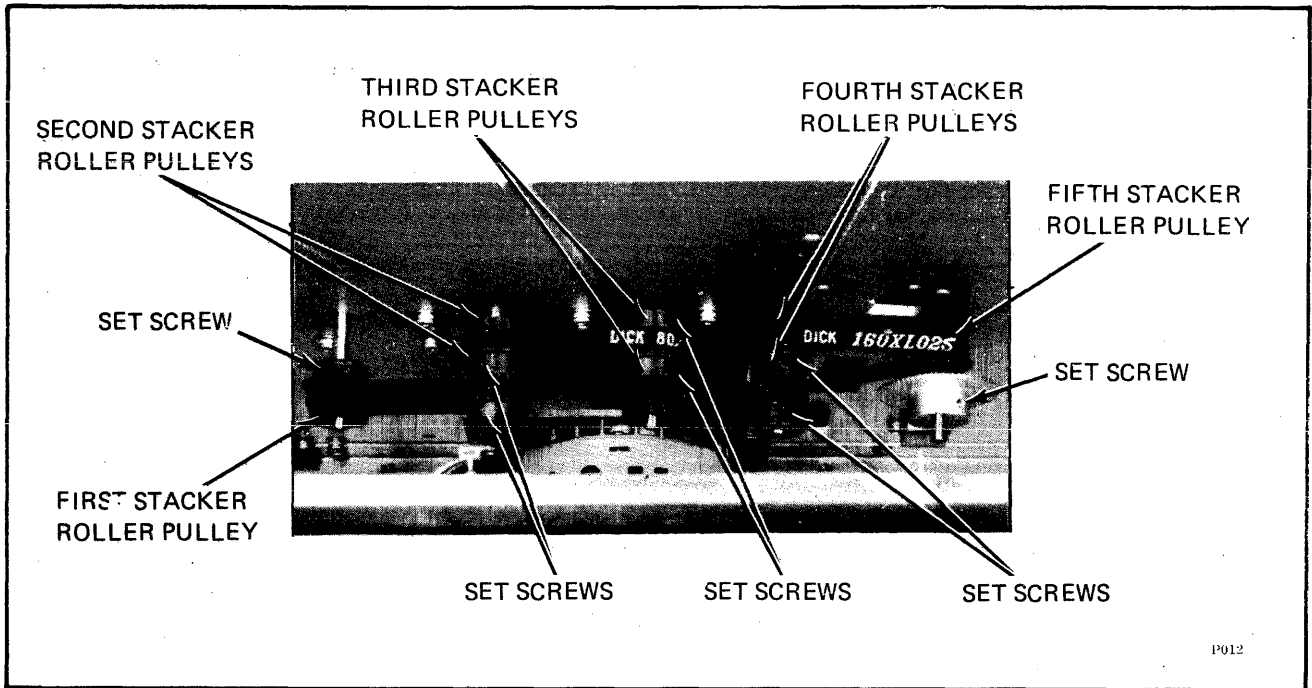

Figure 9-3. Stacker Drive Train Pulley Arrangement
- e. Loosen set screw in fifth stacker roller pulley, Figure 9-3.
2. Slip belt over upper fourth stacker roller pulley, Figure 9-3.
- b. Loosen set screw in bottom fourth stacker roller pulley, Figure 9-3.
- b. Loosen set screw in bottom second stacker roller pulley, Figure 9-3.
Observe position of upper pulleys with respect to mainframe, Figure 9-3. Note that pulleys three, four and five are installed close to mainframe with a slight clearance. Pulley number two should be lowered sufficiently to allow belt to line up with pulley number three.
- 1. Loosen set screw in bottom second stacker roller pulley, Figure 9-3.
5. Replace first stacker roller pulley on first stacker roller shaft in position shown in Figure 9-3.